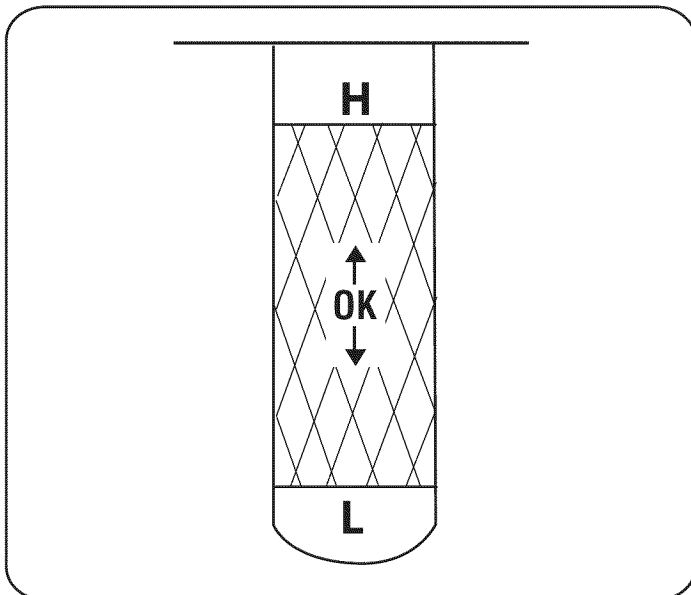

Figure 4
2. Slowly add oil until the oil level registers between high (H) and low (L) on the dipstick, Figure 4. Refer to the Service and Maintenance section for the correct oil viscosity and engine oil capacity.